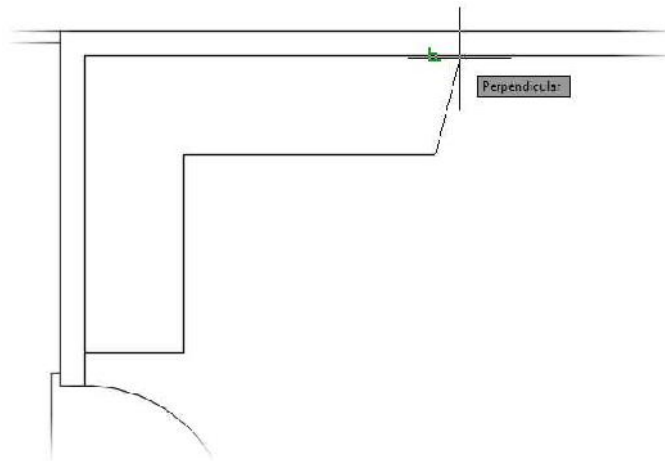

FIGURE 5.40: Completing the counter
10. Select the Perpendicular osnap, and then pick the inside wall line, as shown in Figure 5.40, to complete the counter.